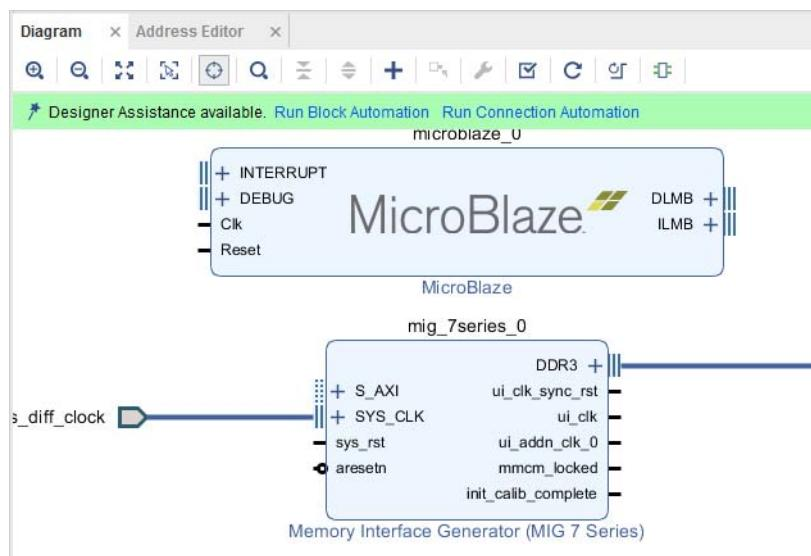

Figure 6-11: Instantiate and Run Block Automation on the MicroBlaze
- Add the MicroBlaze processor to the design, and run Block Automation, as shown in the Figure 6-11.